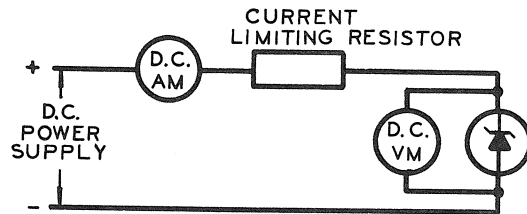

Figure 5-6 Zener Diode Test
5.14.1 A zener diode may be checked with an ohmmeter in much the same manner that a normal rectifier is checked or if a DC power supply is available a check on the actual operation of the zener may be performed (see figure 5-6). Utilizing the test setup illustrated in figure 5-6 the voltage across the diode will increase until it reaches the zener voltage. As the DC input voltage is increased the voltage across the diode will remain constant and the current through the diode will increase rapidly. Care should be taken not to exceed the current rating of the diode. The DC power supply should have a low ripple. A battery is preferred.